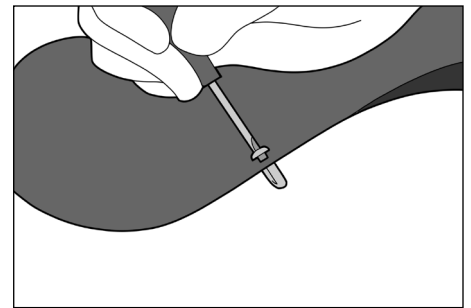

Fig. 16
5. Tighten the screw using ⅛" flat blade screwdriver until snug. (Fig. 16).